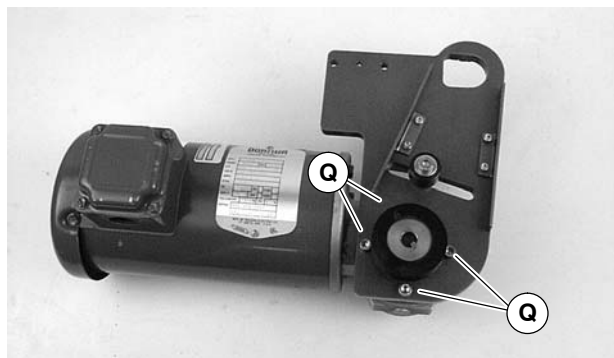

Figure 10
3. If required, change gearmotor position by removing four (4) screws (Q of Figure 10). Rotate gearmotor to other position and replace screws (Q). Tighten to 12 Nm.